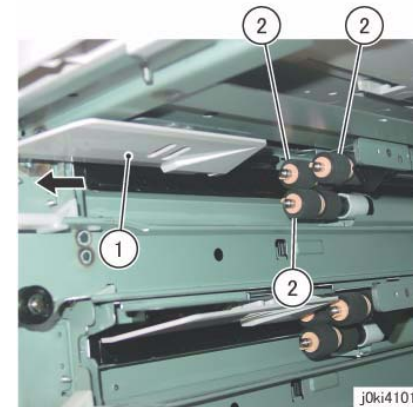

Figure 1 Remove the Tray 2 Feed/Retard/Nudger Rolls
4. Remove the Tray 2 Feed/Retard/Nudger Roll. (Figure 1)